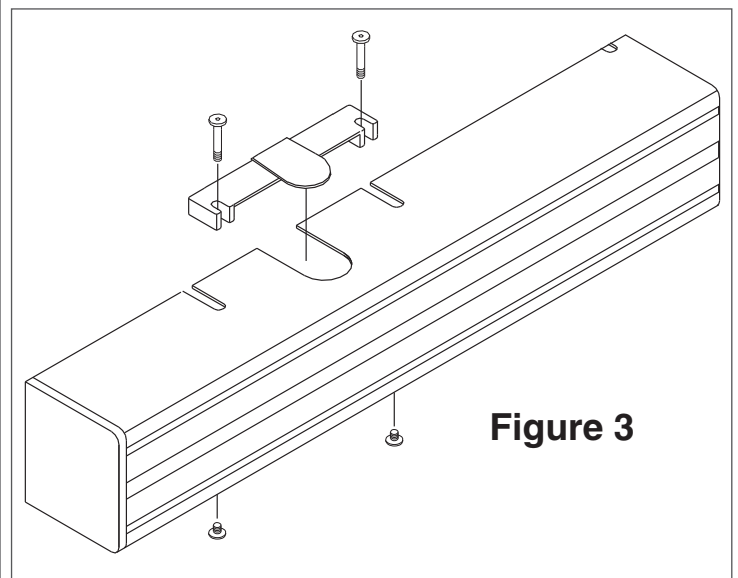

Figure 3
- 7a Slide cover insert into the top cutout in cover (see Figure 3).